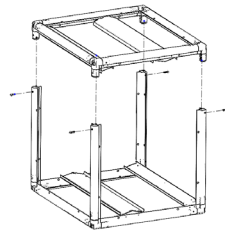

Fig. 4 Install remaining filter rack. (3-ton model shown.)
2. Place the remaining filter rack onto the assembly and use qty 4 of the supplied #10-32 screws to attach the filter rack to the assembly. See Fig. 4.